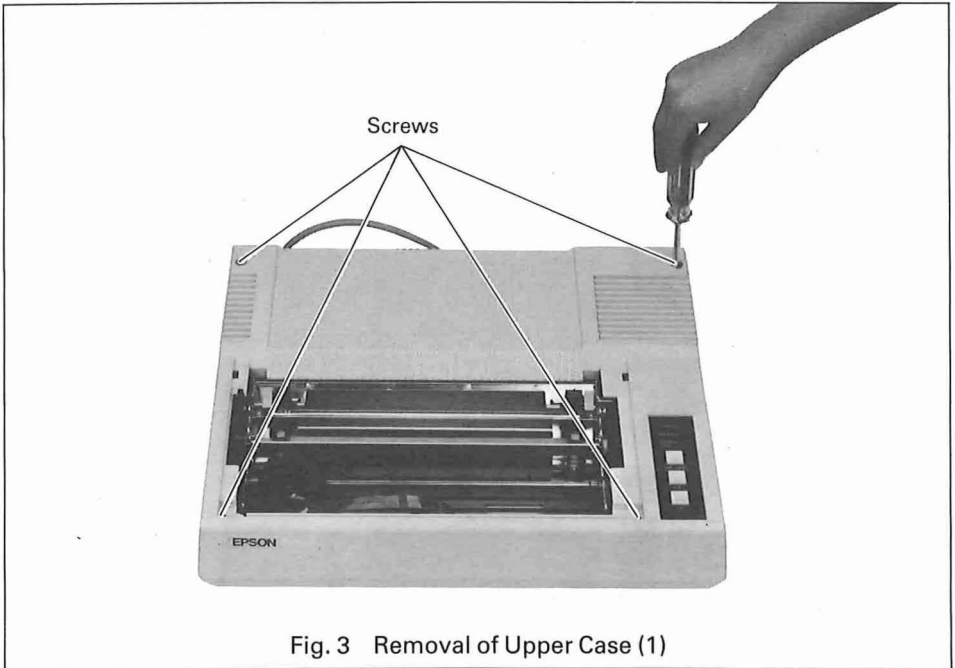

Fig. 3 Removal of Upper Case (1)
- (2) Pull and remove the manual paper feed knob.
- (3) Remove the four screws shown in Fig. 3.